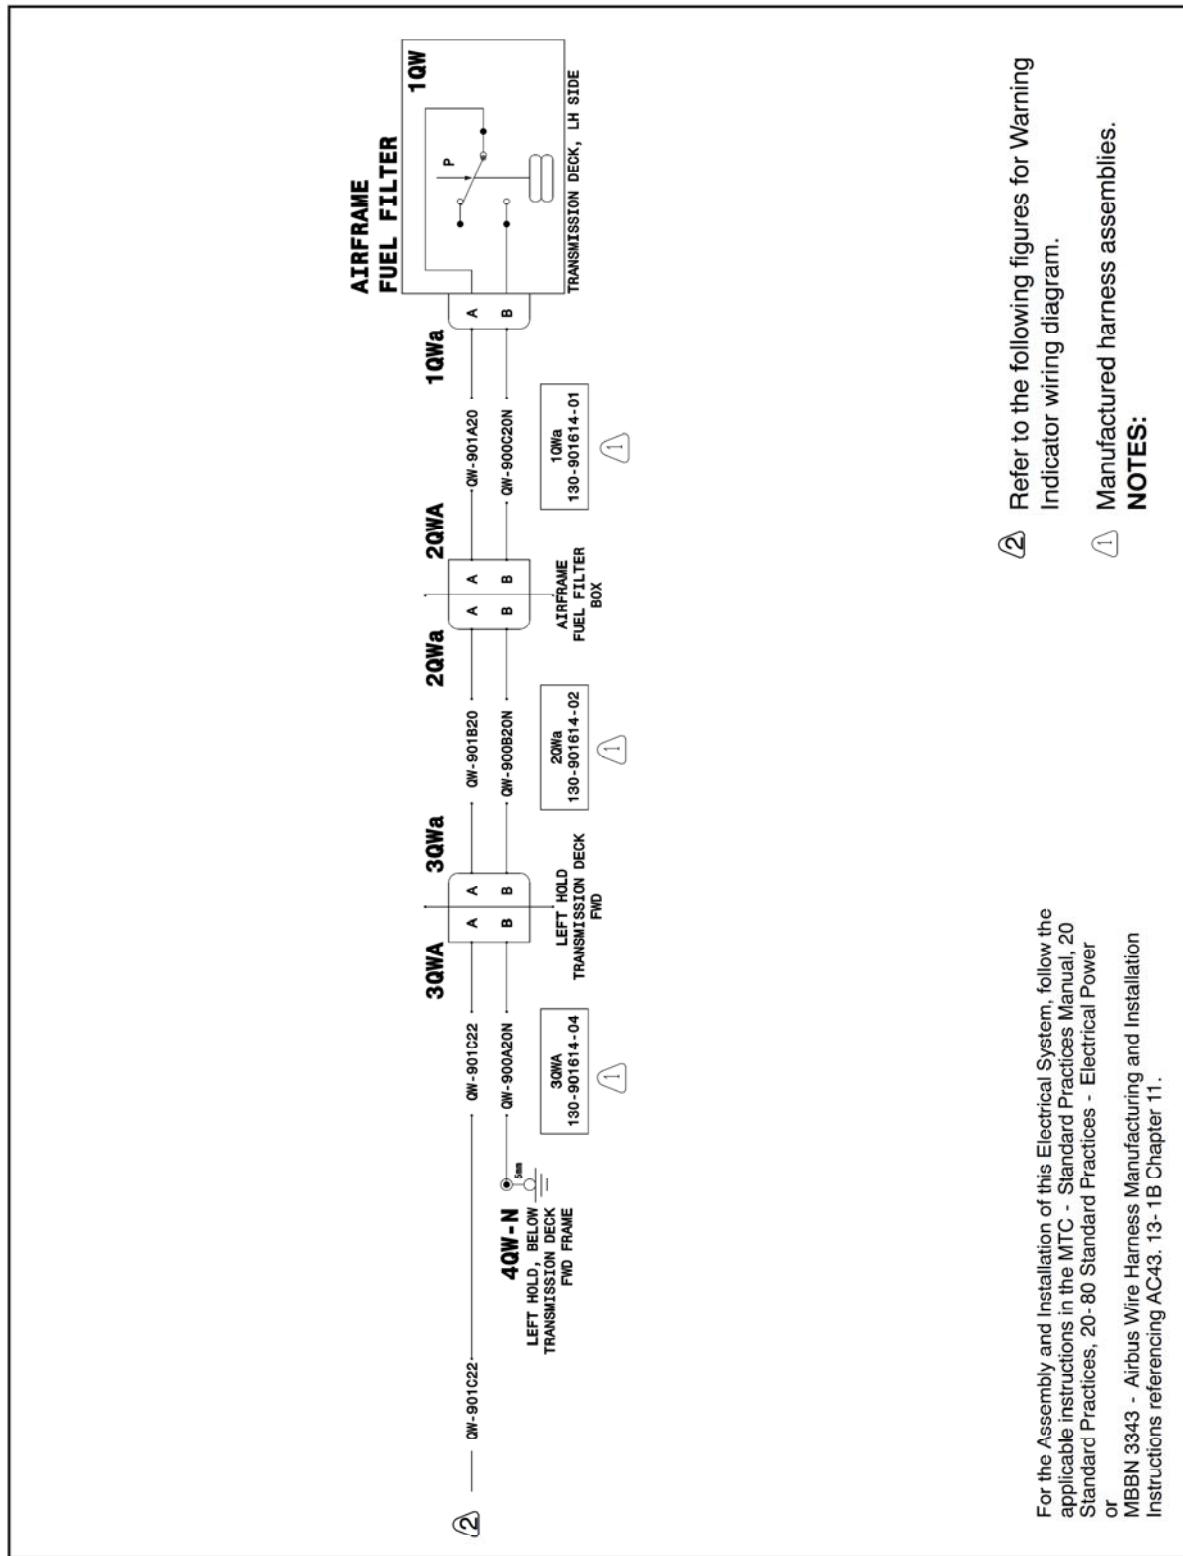

Figure 9 Airframe- Mounted Fuel Filter - Installation, Wiring Diagram
For electrical system troubleshooting, refer to Figures 9 to 14, Airframe- Mounted Fuel Filter, Wiring Diagrams. Remove cover to gain access to fuel filter and re- install after maintenance.
- 1) **FUEL FILTER HARNESSSES** (Refer to Figures 2 & 3 and Figure 9 Airframe- Mounted Fuel Filter, Wiring Diagram)
- g) Follow harness under the cabin floor along the LHS of the aircraft to the Instrument Panel and disconnect existing wire QW- 901C22. Wire location will depend on aircraft configuration. Refer to DETAIL X in Figure 2 and Wiring Diagrams in Figures 9 to 14.